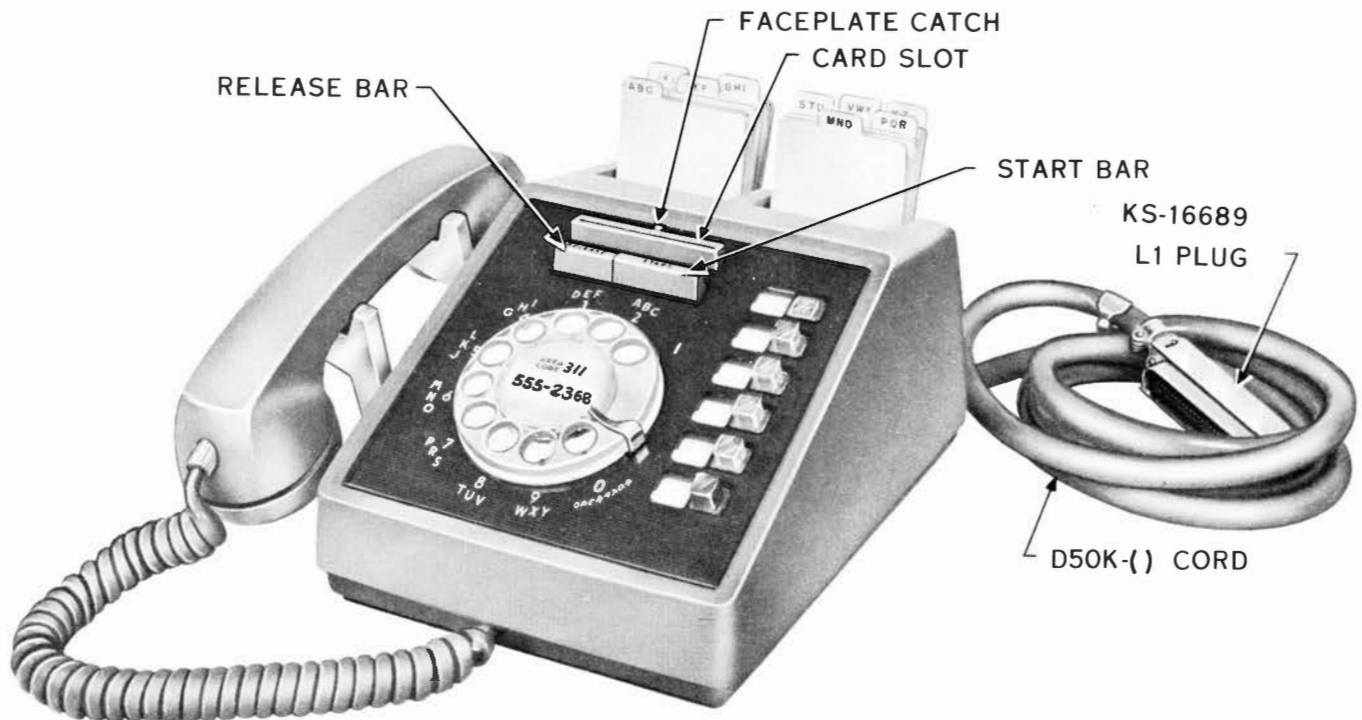

Fig. 1 — 661-Type Telephone Set
1.01 This section covers identification, operation, installation, connections, and maintenance for the 661-type telephone set (Fig. 1 and 2).